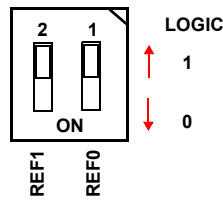

FIGURE 1. TYPICAL U2 DEFAULT SETTING 11 (1.5V)
4. Set the “REF Selection” DIP switch (U2) to 11 corresponding to DAC = REF = 1.5V. Figure 1 details the typical default configuration for U2 when the board is shipped. In this default setting, the evaluation board is set for a reference voltage of 1.5V.